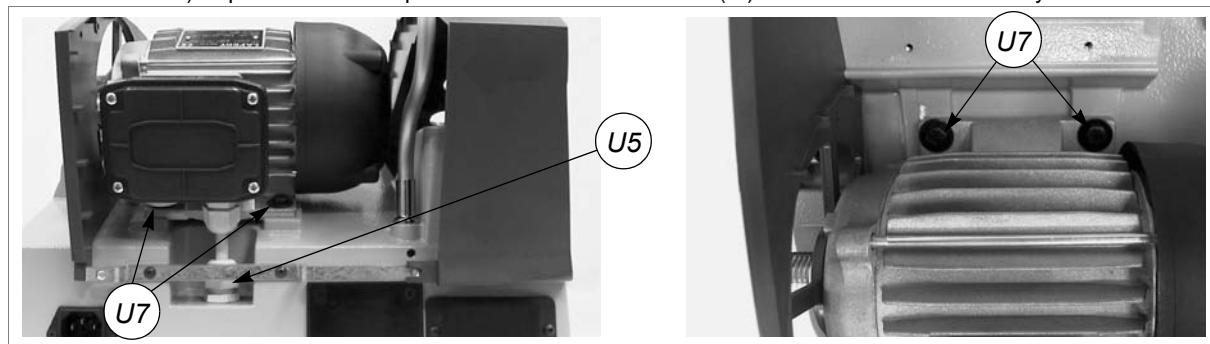

Fig. 45
- 10) Loosen the fairlead (U5) (fig.45).
- 12) Loosen the 4 fixing screws on the motor (fig.45) and remove, paying attention to the wire.